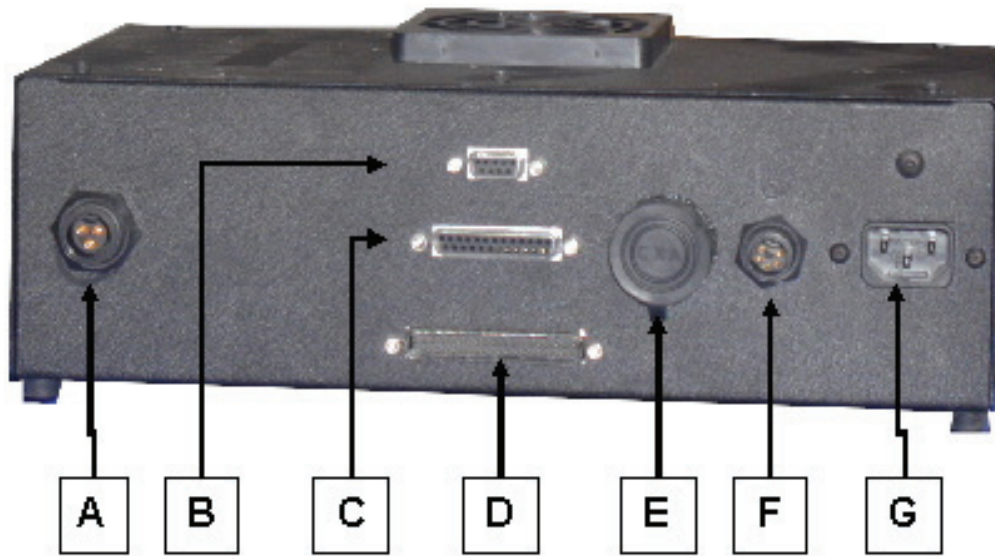

Figure 1.4 TPS Standard Controller
- 1 The system controller box varies depending on the positioner model ordered. The controller box either will be mounted on the rail or will be packaged as an independent unit. Both controllers perform the same function, but the exact configuration varies depending on customer needs. The connections for the Controller Box are shown in Figure 1.4, respectively.